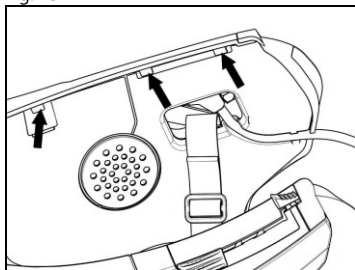

Fig. 15
- Reposition the plastic lining of the cheek padding, arranging it behind the two small stop hooks (Fig. 15).